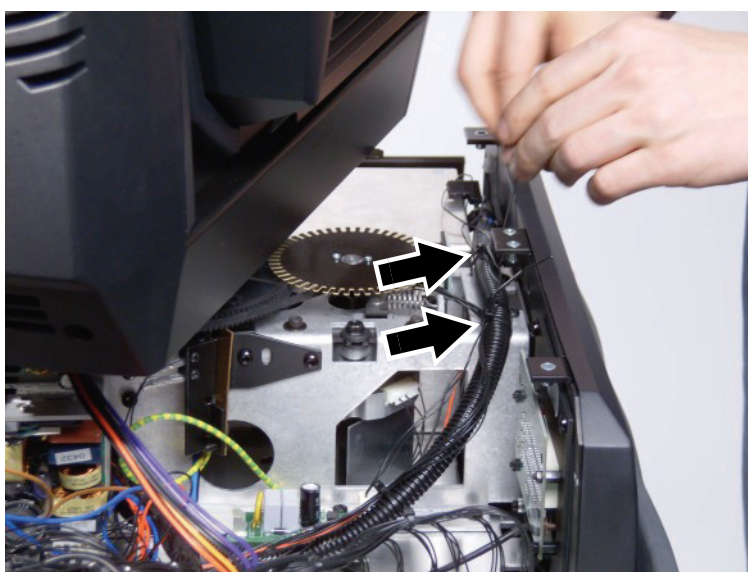

Figure 34
36. See Figure 34. The low-voltage leads from the remote lamp on/off opto-switch PCB to the ballast and from the reduced lamp power circuit on the main PCB to the ballast must also be secured. Use cable ties to fasten them to the main ballast output cable sleeve as shown in the photo.